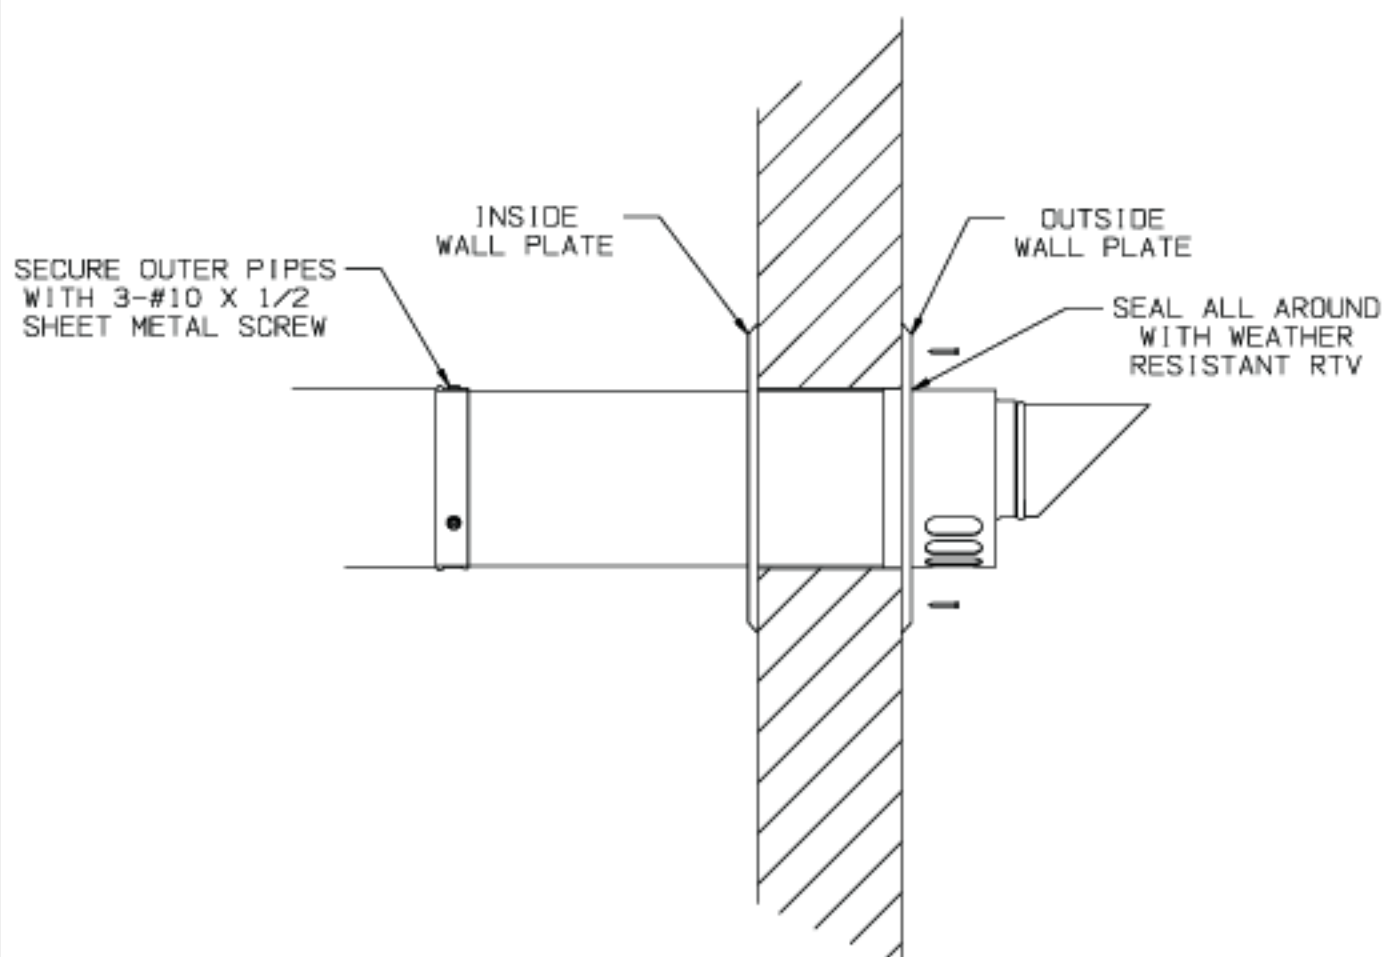

FIGURE 6.20d: COMPLETING HORIZONTAL TERMINAL INSTALLATION
- h) Slip the terminal section through the wall from the outside. Pass the terminal through the inner wall plate and push into the last section of vent pipe until the mark made in Step (h) is no longer visible (Figure 6.20d). Secure the terminal to the last piece of pipe with three #10 x 1/2" sheet metal screws. Drill a 1/8" hole through both outer pipes to start these screws. Use a **drill stop or other means to ensure that the drill bit does not penetrate more than 3/8" into the outer pipe. Do not use a sheet metal screw longer than 1/2"**.
- i) Slip the outer wall plate over the terminal and secure to the wall (Figure 6.20d). Apply a 1/8" bead of weather resistant RTV over the joint between the outside wall plate and the terminal. Secure the other wall plate to the inside wall.